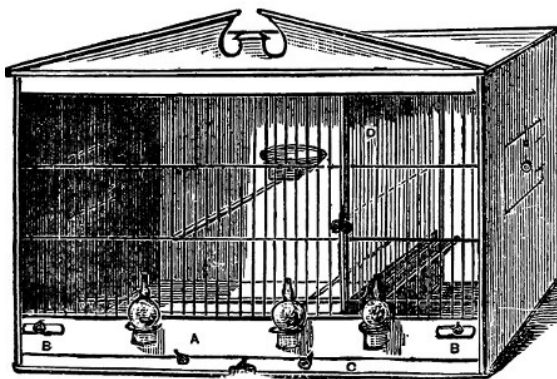

Fig. 2.
I have already said that the wood a cage is made of is a matter of secondary importance. The body may be pine, for instance, and the front parts any kind of ordinary hard wood—mahogany to wit. The cage (Fig. 2) which is now before us is one of the German kind, manufactured by Mr. Abrahams, naturalist, St. George Street East. The nest has, however, been put in the drawing in the wrong compartment.
Direct your attention next to the front, but you had better let the work you have already done get firm and dry before doing much more to it. Meanwhile measure and make the piece of hard wood that crosses the cage in front just above the bottom drawer (Fig. 2, A). This should be from two to two and a half inches wide, and an oblong space or opening (B) is to be left at each end. These are for the little seed-tins to fit in. As soon as you have made this piece of wood (A) and dressed it most neatly, you may place it in position. This must be most carefully done, leaving a full inch of space beneath it for your bottom drawer or false bottom. Nail it from the sides.
You can now proceed to make this false bottom, taking great care that the front part, which is of hard wood (Fig. 2, c), fits the space you left for it exactly, and without a flaw. The mechanism of this false bottom is so simple that instead of describing it or illustrating it, I beg to refer you to your friend Smith's cage. A glance will suffice. But remember not to spare the glue on that either.
Well, a glance at the complete cage (Fig. 2) will show you that there is a wire partition at d dividing the cage into two compartments, a big and a small. This partition, however, does not go right to the bottom of the cage, because it is a sliding one and draws out. It runs at top and bottom in grooves made by three pieces of wood, one of the pieces of the lower groove being deeper than the others, and quite filling up the vacancy between the false bottom and the wire partition, so as to prevent a bird from creeping through under.
Now for the front. This is to be made separately, and then slipped in. There is another plan, but I think I give the better of the two. Glance again at Fig. 2. Take a look at friend Smith's cage as well. Now scratch your elbow thoughtfully, gather all your scattered senses together, and all your brains, and proceed to business. There is a top bar and a lower bar, and two strong cross wires; but mark this, please—these cross wires are not continuous all the way, there must be a space left for your wire partition to slip out and in.
Well, you have your wires all ready. Measure the length you want them, and cut them all of a size a little longer than they are actually required. They have to pass right through the upper bar (Fig. 2), and be fastened into the lower (Fig. 2), and as the same space—namely, half an inch—must exist between each wire, before you bore the holes for them you must carefully mark the places on both bars, and this is done either with a pair of compasses, or more surely and securely with the prongs of a two-toed fork. While making or wiring the front, be sure first that the top and bottom bars are exactly the same length, then lay them fair and square on your bench or table, and tack them down with small nails: